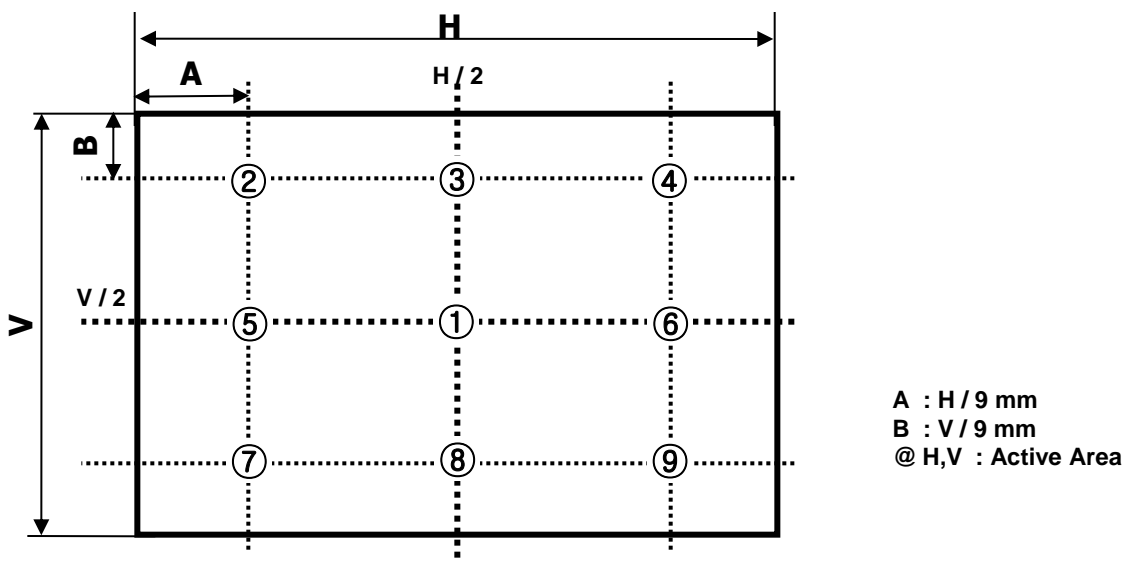

FIG. 3 9 Points for Luminance Measure
2. Surface luminance is determined after the unit has been 'ON' and 1 Hour after lighting the backlight in a dark environment at $25 \pm 2^\circ\text{C}$. Surface luminance is the luminance value at center 1-point across the LCD surface 50cm from the surface with all pixels displaying white. For more information see the FIG. 3.
For more information, see the FIG. 3.